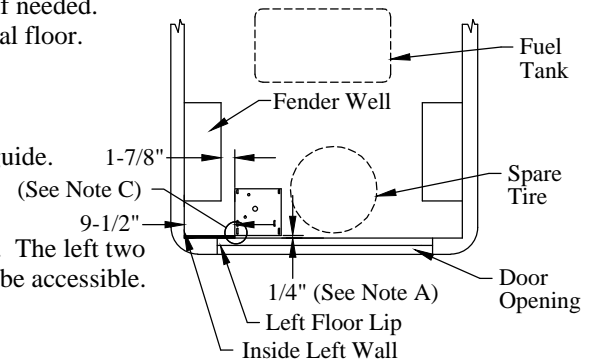

Figure 3: Base plate location and obstructions.
- 5. Position** the base plate in the van as described in notes A, B, or C (Figure 3).